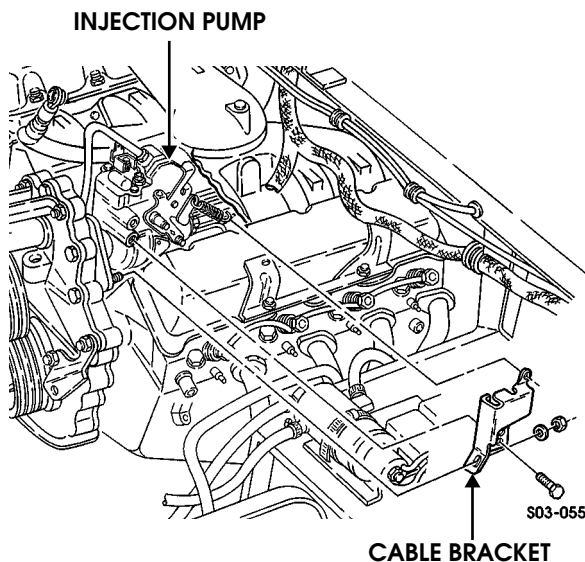

Figure 3-73: Cable Bracket Mounting
1. Install bracket on injection pump and stud. Tighten attaching bolts to 13 lb-ft (18 N•m) (Figure 3-73).